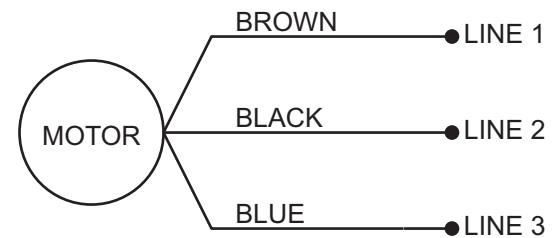

FIG. 12 Electrical connections for 3 Phase AC Pumps
2. Connect wires and related conduit (user-supplied) rated per local electrical code. See FIG. 12 for wiring diagrams, and **Technical Specifications**, on page 58, for current ratings.